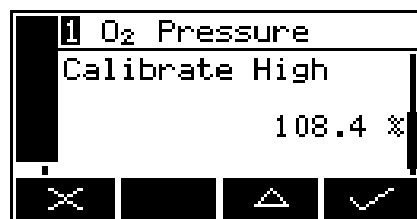

Figure 86 – Pressure high calibration screen
7. If low calibration was successful the screen should display as shown in Figure 86.